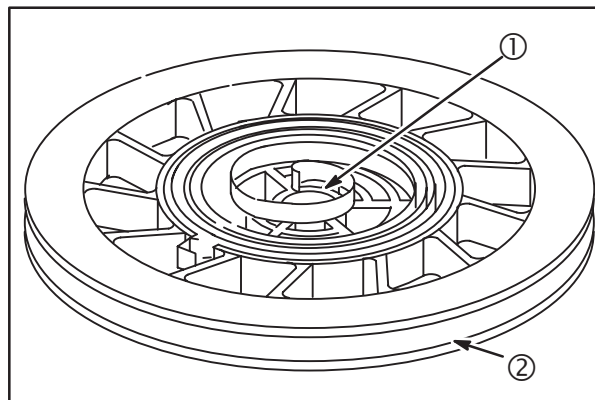

Fig. 58
Inspect pulley for wear, cracks, rough edges or burrs in pulley groove (2) and wear on center hole (1), Fig. 58. Replace pulley if damaged or worn.